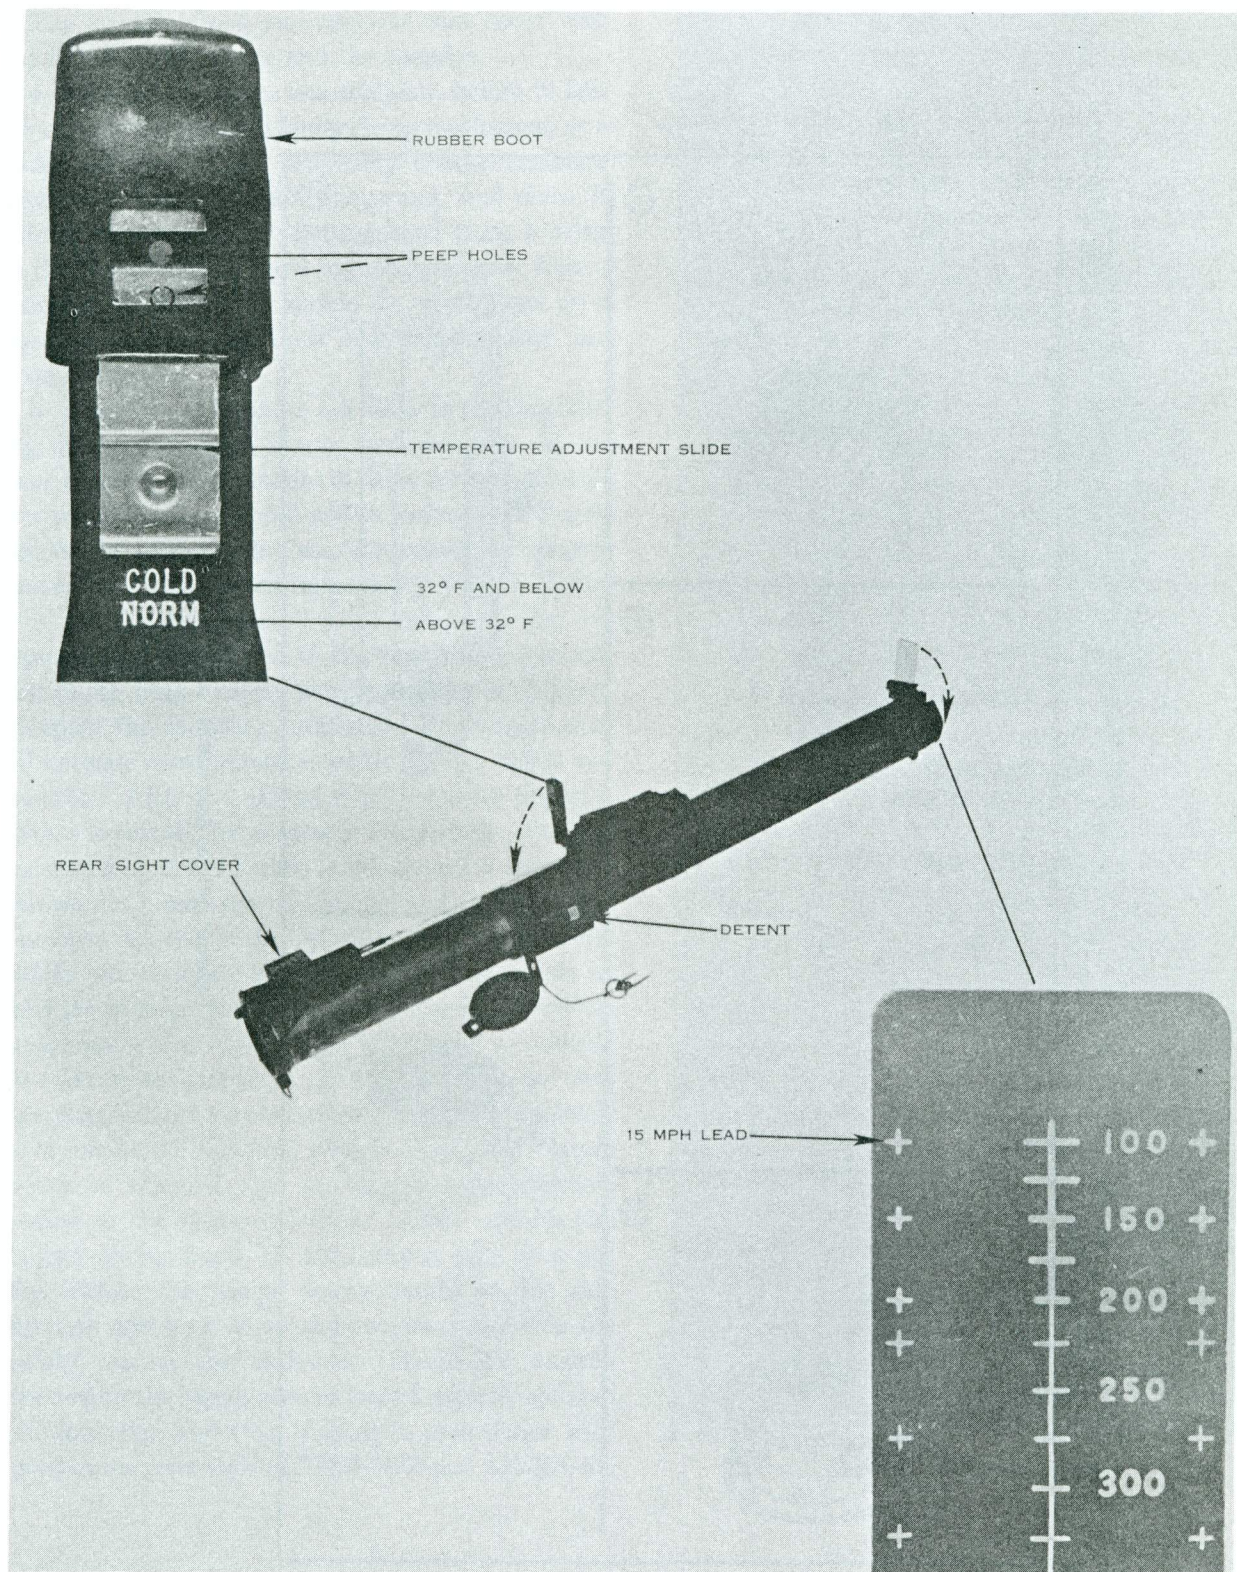

Figure 7. M72 sights.
The front sight on the M72 (fig. 7) is made of clear plastic and has a sight reticle stamped upon it. The reticle has a vertical centerline that is graduated in 25-meter increments from 100 to 325 meters. On either side of the vertical centerline are 15 mile per hour lead marks which appear at the following ranges: 100, 150, 200, 225, 275, and 325 meters. These marks are placed on the reticle to aid the gunner in tracking a moving target.
The rear sight (fig. 7) consists of two stamped metal parts and a rubber boot. The fixed portion of the sight is marked with the words COLD and
b. In the event the M72 is prepared for firing but is not fired, it may be returned to the carry position by reversing the preparation procedure. First reset the trigger safety and then remove the launcher from the shoulder. Replace the rear safety pin. Depress the detent (fig. 7) and partially collapse the launcher. Fold the rear sight down so that it
*a. Rear Sight.* The rear sight on the M72 is basically a simple peepsight. Before sighting, the gunner should inspect the sight to insure the slide is in the correct position or setting for the existing conditions of temperature (fig. 7). The gunner sights through the rear sight by placing his eye on line with the peephole and sighting toward the front sight reticle.